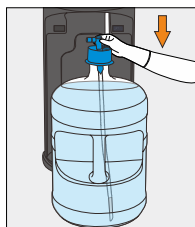

Figure 41
20. Push the tube to go through the Spike Cap, until it is close/hits bottom of the bottle (Figure 41)